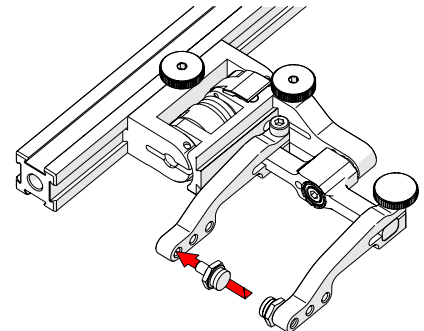

Fig. 154 - Place pivot buttons
4. Using the supplied 3/8 in wrench, place the pivot buttons (Fig. 154) farthest from the yoke for maximum wedge clearance.